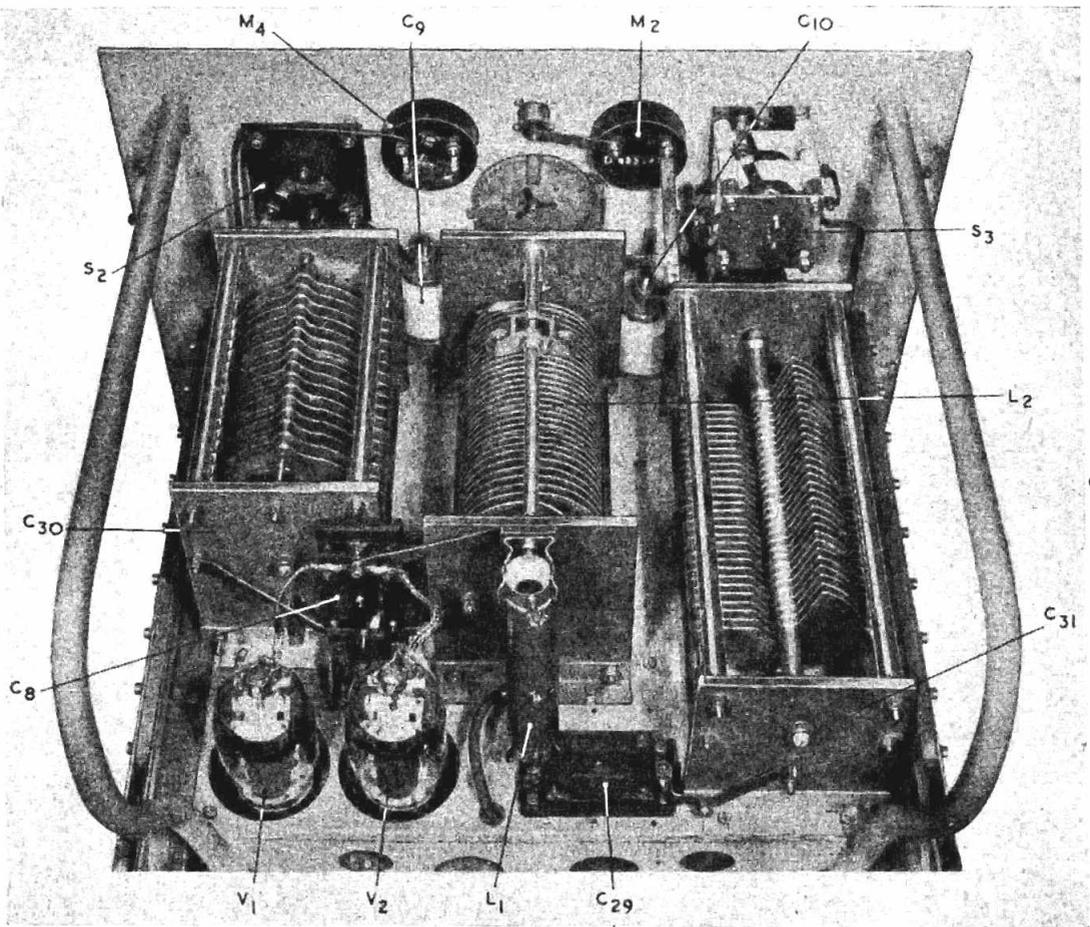

Fig. 27. Power amplifier components
**132.** A view of the PA components is given in *fig. 27*. One of the fixed output